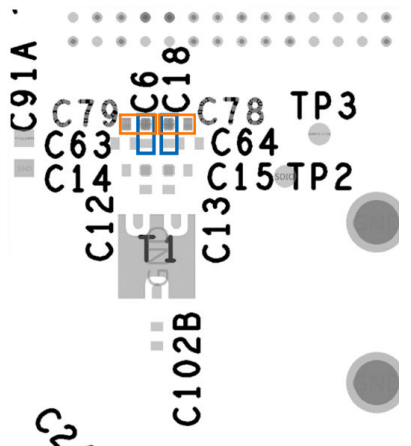

Figure 3. Clocking Capacitors View
- ▶ Figure 3 displays a zoomed in view of the clocking capacitors. Note that the capacitors outlined in orange, C78 and C79, are for on-board clocking, and the capacitors outlined in blue, C6 and C18, are for external clocking. In addition, although these capacitors are all the same package size, note that, the on-board clocking capacitors are 1nF capacitors, and the external clocking capacitors are 10nF capacitors.